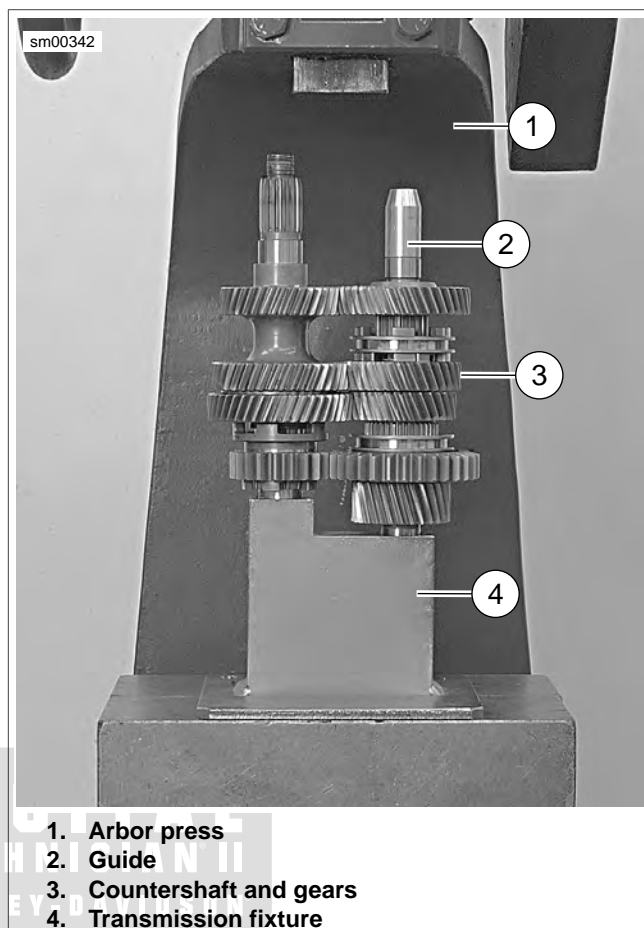
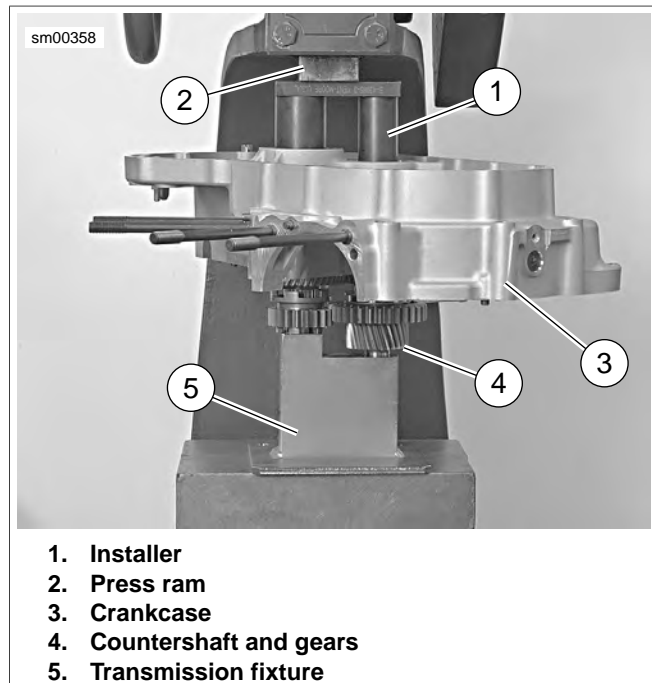

Figure 5-87. Transmission Assembly in Fixture (Typical)
Figure 5-88. Pressing Transmission Into Left Crankcase (Typical)
1. See Figure 5-87. Place transmission assembly onto TRANSMISSION FIXTURE (Part No. B-46285 (4)) on arbor press (1).
2. Install transmission remover/installer tool GUIDE (Part No. B-43985-4) (2) over the end of the countershaft.
3. See Figure 5-88. Place left case half over transmission assembly and install transmission remover/installer tool INSTALLER (Part No. B-43985-3) (1) into crankcase.
6. Remove left crankcase half and transmission assembly from fixture (5).